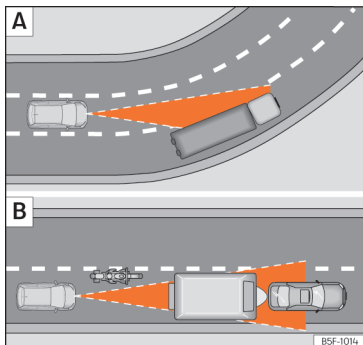

Fig. 119 [A] Vehicle on a bend. [B] Motorcyclist ahead, out of range of the radar sensor.
The ACC may not detect the vehicle in front on a curve, or may regulate the distance from vehicles in other lanes >>> **Fig. 119** [A].
- Vehicles that are not aligned while driving or that are outside the sensor's detection area, such as motorcycles >>> **Fig. 119** [B].